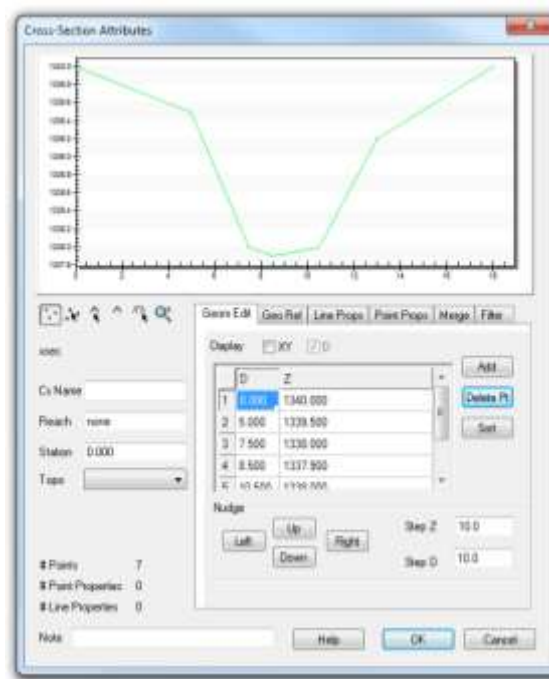

Figure 2 Adding cross section geometry data to the database
7. Copy and paste the cross section data for Channel Section 1 from “channel.txt” (opened in Notepad) into the Cross-Section Attributes *Geom Edit* tab as shown in Figure 2. Make sure to paste the data into the first row.